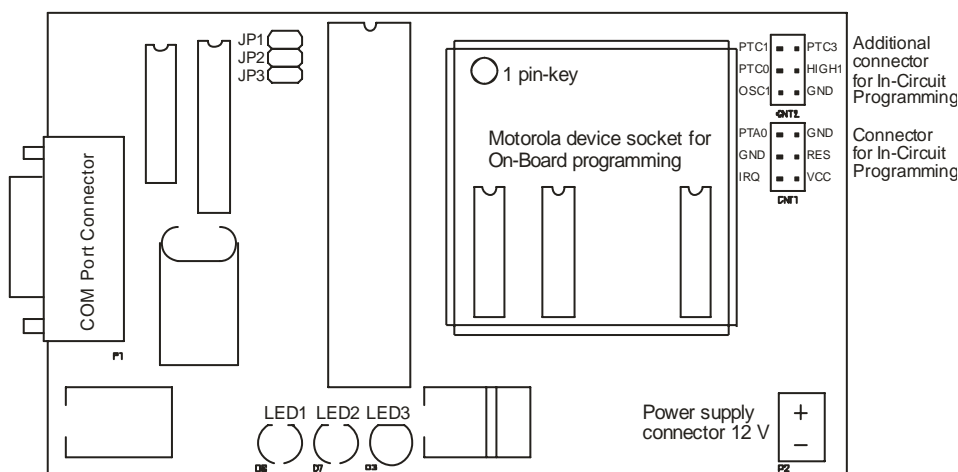

Figure 1. The **HC08-Programmer** board layout
The **HC08-Programmer** includes three LED's and three mode jumper (Figure 1). Color LED's indicates programmer state and external power supply voltage (Table 1, 2, 3).
RED	External Power supply voltage or voltage on IRQ pin, 2 pin Motorola device socket and IRQ pin on CNT1 connector, lower than 9.5 Volt (see Figure1).
ORANGE	Voltage +5V supplied to Motorola device socket 22, 55 pins and to CNT1 Vcc pin (see Figure1).
- Insert jumper JP1 (see Figure 1).
- Remove JP1 (see Figure1).
- Insert adaptor to Motorola Device Socket on HC08-Programmer in according to 1 pin-key (see Figure 1).